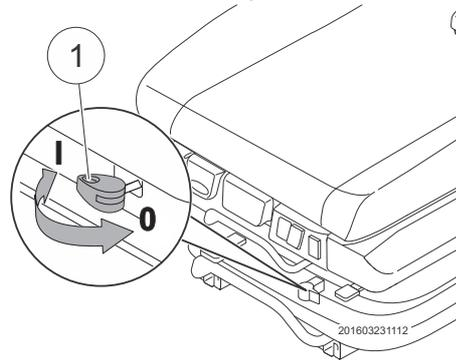

Fig. 66 Horizontal suspension
- 1 Switch the lever (Fig. 66/1) to the position **I**.
- 2 Switch the lever (Fig. 66/1) to the position **0**.